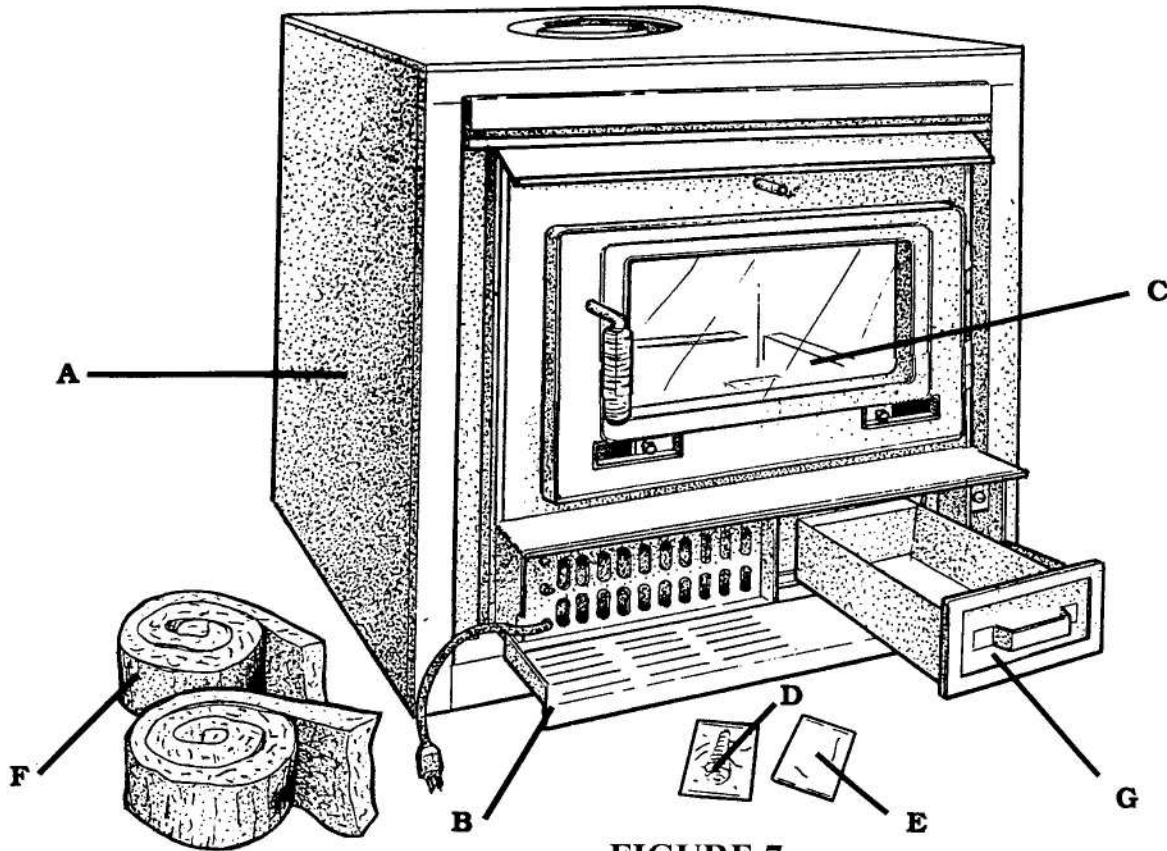

**FIGURE 5**
- (A) After selecting your site, place the Gemini XL unit in desired position.
- (B) Attach chimney to unit, following the special instructions on page 7 in the freestanding section.
- (C) Finish construction around unit (see Figure 5).
- (D) Trim the stove unit in desired materials to match your decor (wood, paneling, brick, "cut" or "natural" stone may be used).
- (E) Install the protective hearth in front of the unit last, after all other construction is complete.
- (F) Do not block any natural cooling vents of the Gemini XL fireplace unit when installing.